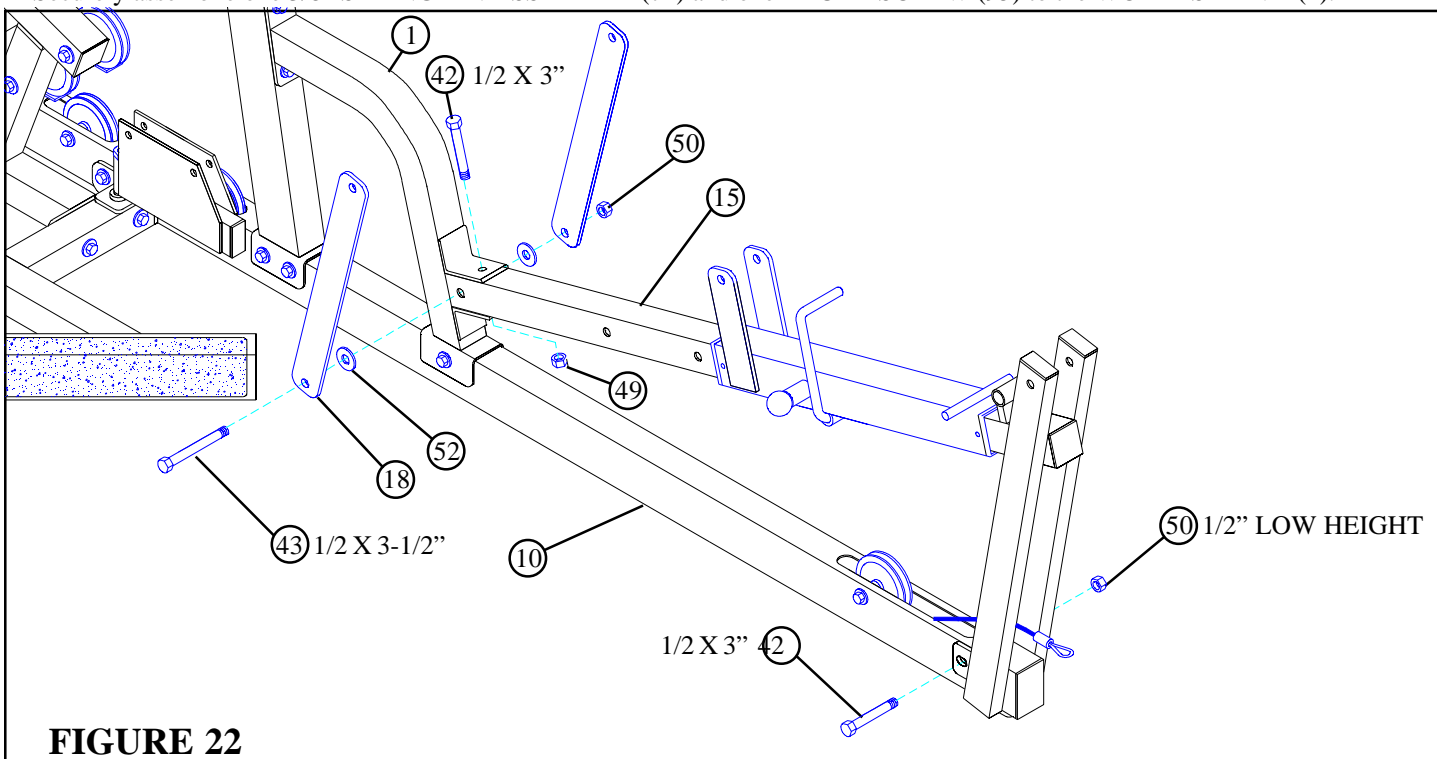

FIGURE 22
- Securely fasten BENCH FRAME (15) to the BASE (10) using one 1/2 X 3" BOLT (42) and one 1/2" LOW HEIGHT LOCKNUT (50).
- Securely attach BENCH FRAME (15) to the FRAME SUPPORT (1) using one 1/2" X 3" BOLT (42) and one 1/2" LOCKNUT (49).
- Attach two 2 X 16-1/2" PLATES (18) to the BENCH FRAME (15) using one 1/2 X 3-1/2" BOLT (43), two 1/2" WASHERS (52), and one 1/2" LOCKNUT (49). Make sure 1/2" WASHER (52) is on inside of plate as shown on FIGURE 22. (**NOTE: Securely tighten, then back nut off 1/4 turn to allow the 2 X 16-1/2" PLATES (18) to rotate freely.**)